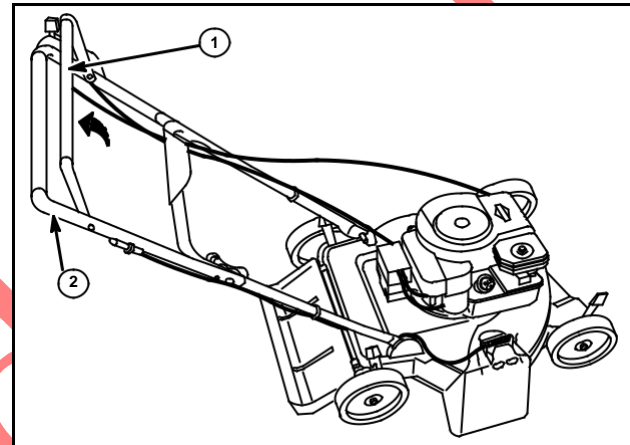
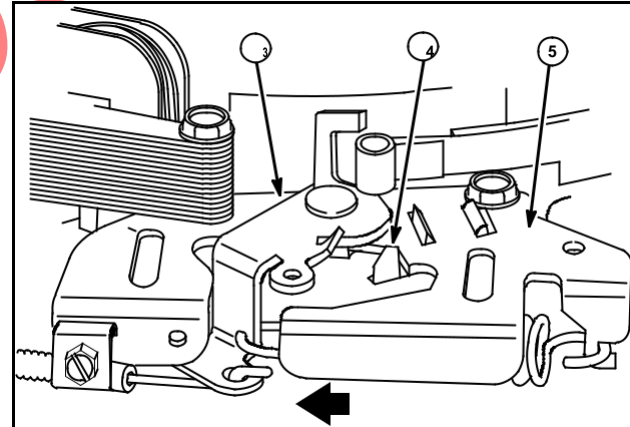

Fig. 23
Fig. 24
Move control lever away from stop switch using safety control (1) shown on handle (2) in Fig. 23, or by moving control lever (3) at engine in direction shown in Fig. 24.
3. Using Tool #19464, Digital Multimeter, set meter to ohms (Ω) and connect test leads to engine ground and other test lead to wire retainer. Move control lever to run position Fig. 24.
NOTE: On System 2 and System 4 engines operate safety control (operator presence control) to move control lever away from stop switch (4), Figs. 24, 28 and 29.